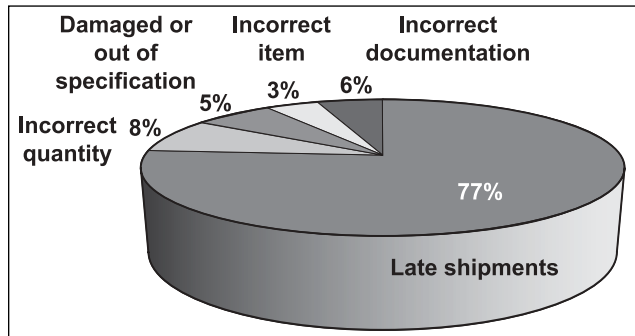

Figure I-2.5 Distribution of Failure Modes
- *Coordinate initiatives to improve delivery performance.* A survey from the Performance Measurement Group (PMG; Waltham, Mass.; 781-434-1279), *Supply-Chain Management Benchmarking Series*, finds that best-in-class performance in perfect order fulfillment has improved 5% since the mid 1990s. Late shipments account for the number one failure toward achieving perfect orders. Other reasons include incorrect documentation, incorrect items being shipped, damaged goods, and incorrect quantities (see Figure I-2.5).